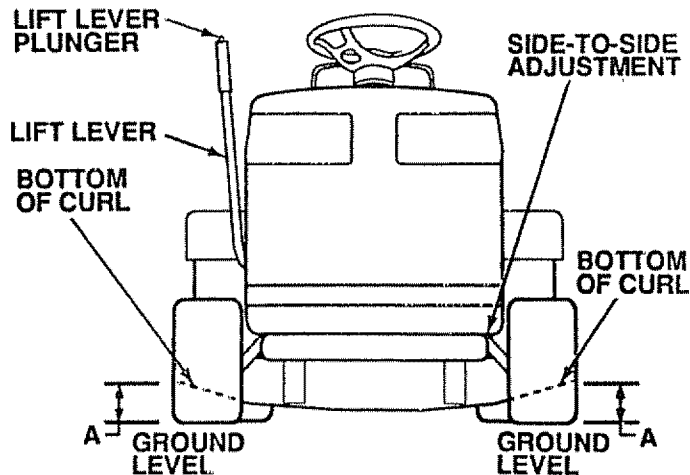

FIGURE 37
- Measure height from bottom of curl to ground line at front of mower. Distance "A" should be the same on both sides (Fig. 37).